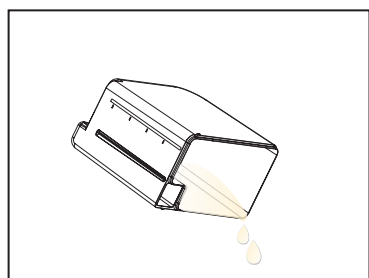

Fig.3
3. Empty the milk tank (See Fig.3).